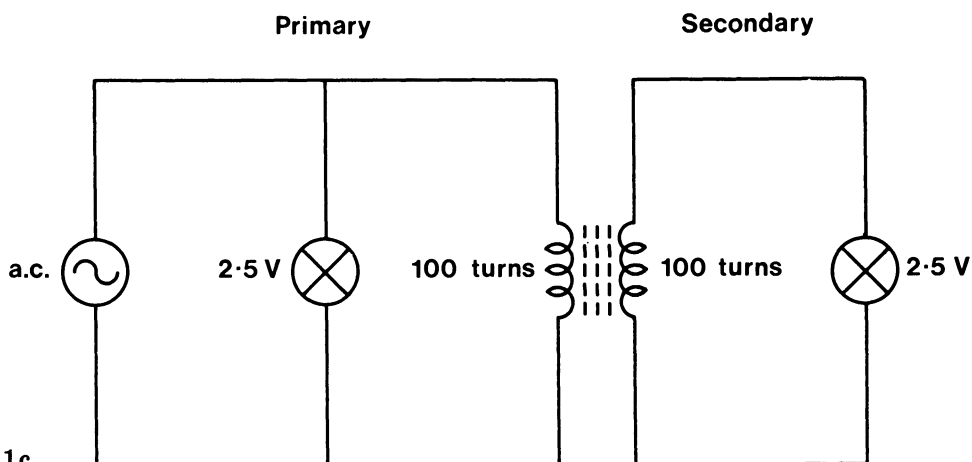

FIG. 1.21c
7. Now connect the transformer to the signal generator as shown in Fig. 1.21c.
9. Take off 50 turns of wire from the secondary and now with only 50 turns on the secondary connect the circuit up again as in Fig. 1.21c. Again with the bulbs removed, check the voltage across the primary and secondary with the avometer. The voltage on the secondary should be roughly half that across the primary. Put the bulbs in and observe that the bulb in the secondary is dimmer than that in the primary. Taking turns *off* the secondary *reduces* the output voltage. Putting turns *on* the secondary *increases* the output voltage. In fact,